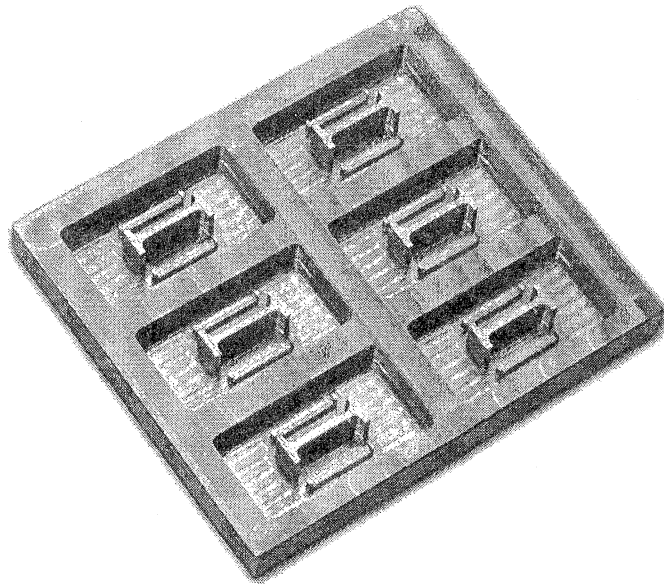

Figure Q5.
- d) You are requested to manufacture the product shown in *Figure Q5*. using a 3axis milling machine.